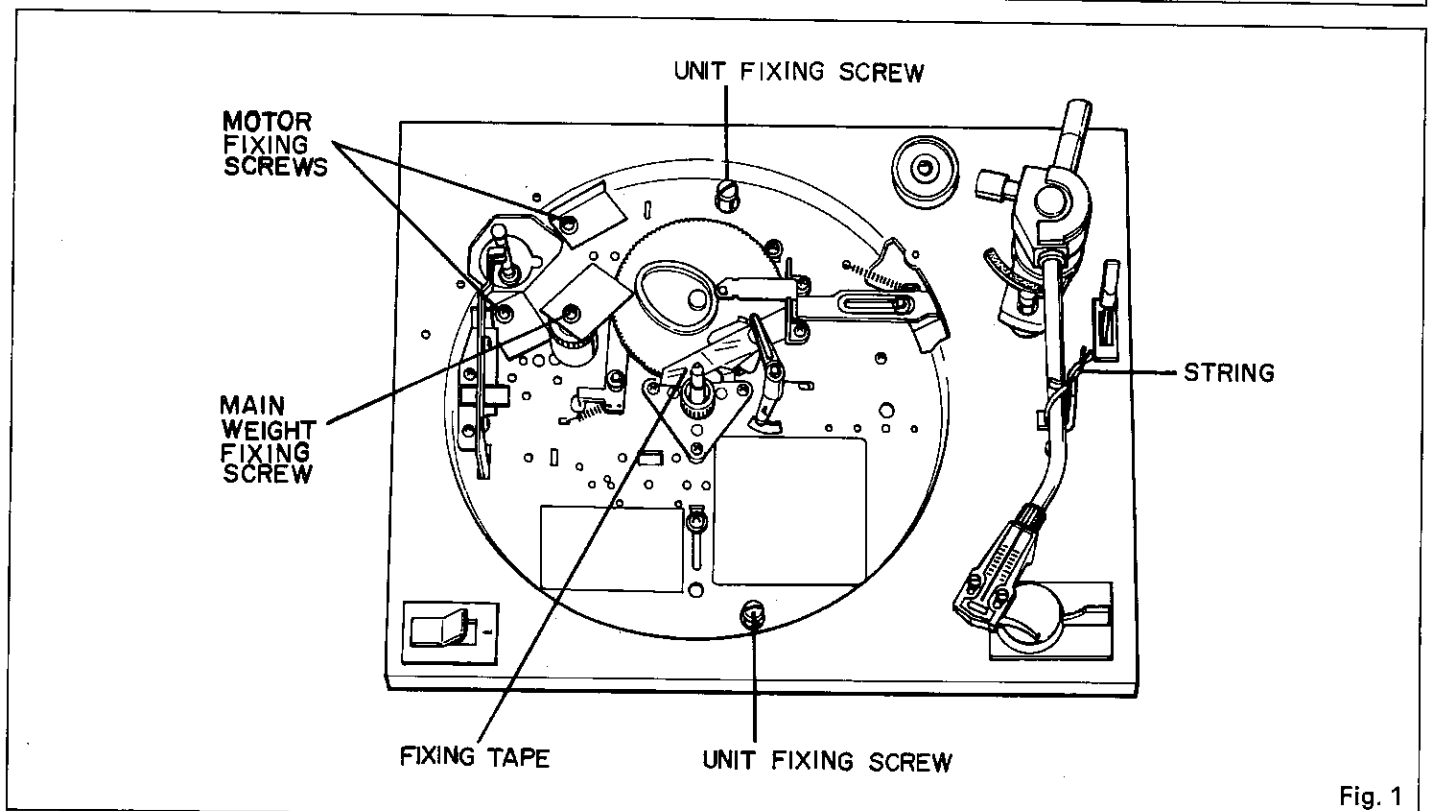

Fig. 1
1. Unpack the unit and remove the three screws which hold down the motor and the main weight during transportation. (Fig. 1)